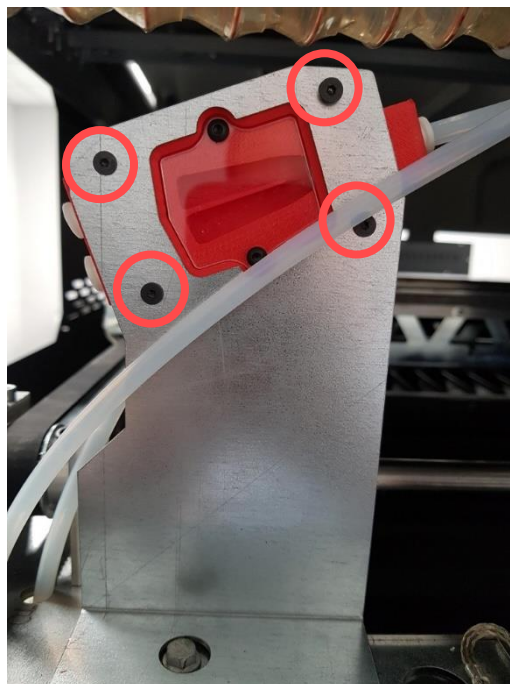

Fig. 122 Mounting the Y-distributor to the bracket
14. Screw the Y-distributor with 4 screws to the bracket (Fig. 122).